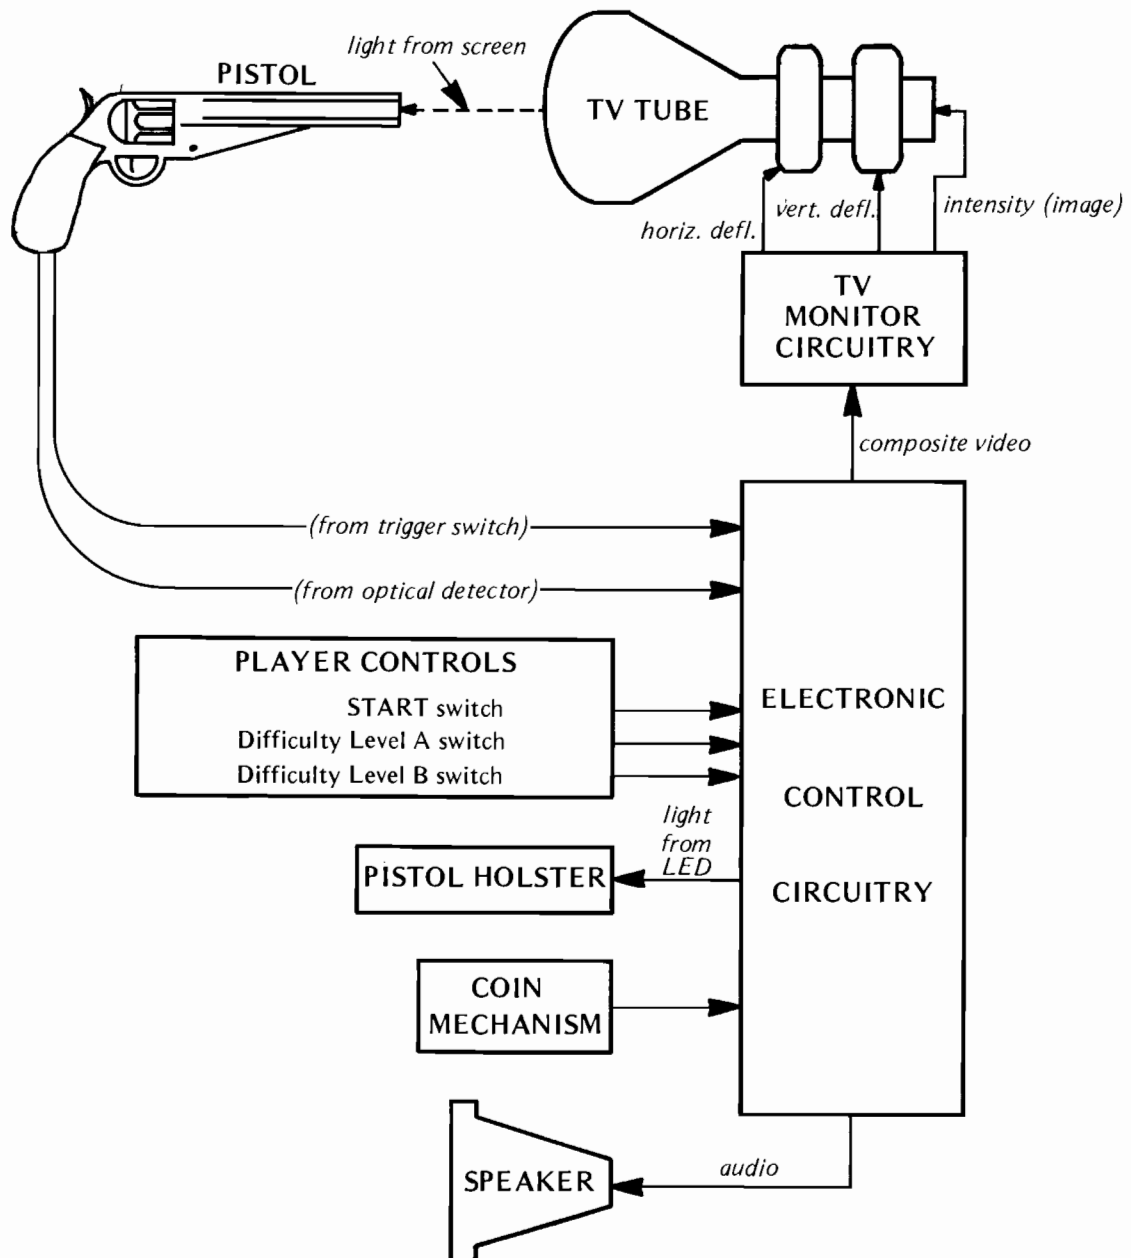

Figure 3-1 Functional Block Diagram of Outlaw Game
The simplified block diagram in Figure 3-1 shows the major functional parts of the Outlaw game and how they are interconnected. In the muzzle end of the pistol contains a narrow-beam-width optical lens that focuses light onto an optical detector circuit located inside the pistol. This optical detector responds to light coming either from the TV screen or from a light-emitting diode (LED) mounted inside the pistol's holster receptacle on the front panel, but does not respond to the surrounding room lighting. The optical detector's output signal connects to the main electronic control circuitry via the pistol cable.
3.2.2 TV MONITOR: The TV Monitor is a self-contained transistorized television monitor supplied to Atari by Ball Brothers Research Corp. Because the "composite video" signal supplied to the monitor by the game's electronic control circuitry differs in certain important respects from the signal derived from commercial TV broadcasts, the monitor does not produce any sound and the picture appearing on its screen is unlike that of a home TV set. The game's sound is produced by a speaker mounted separately from the monitor and driven directly by the game's electronic control circuitry. (The separate "audio" and "composite video" connections shown in Figure 3-1 point out this difference.)